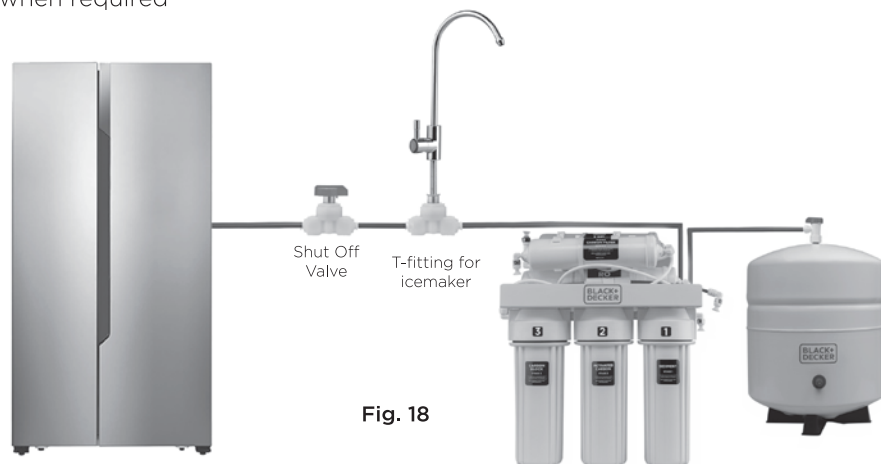

Fig. 18
**See Fig. 18.** Add a quick connect T-fitting before faucet as shown in the diagram. Divert the purified water to the ice maker. Add a ball valve between T-fitting and ice maker so that the water supply can be closed when required